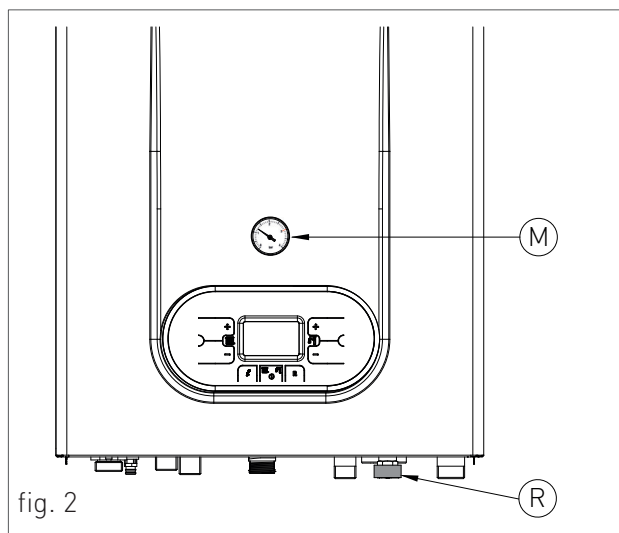
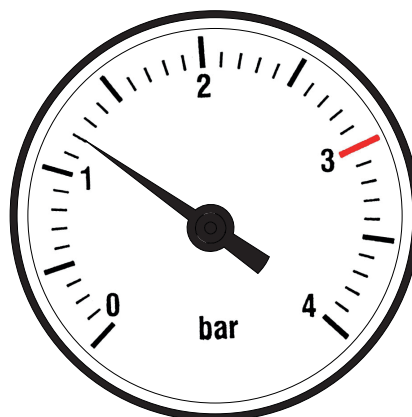

fig. 2
fig. 4
LOCATION (SEE FIG.2 AT CHAPTER 'POSITIONING AND MINIMAL TECHNICAL SPACES').
It is allowed an outdoor installation in a partially protected location (i.e. shelter, balcony) that respect the minimum measure indicated in figure 2.
3. open the feeding tap "R" (fig. 2);
5. use pressure gauge "M" (fig. 2) to make sure that the system pressure reaches 1.2 bar (fig. 4);
6. after performing this operation, make sure that the loading tap "R" (fig. 2) is properly closed.
8. if after performing these operations you observe a decrease of the water pressure inside the system, open once again the loading tap "R" until the pressure gauge indicates the value of 1.2 bar (fig. 4)